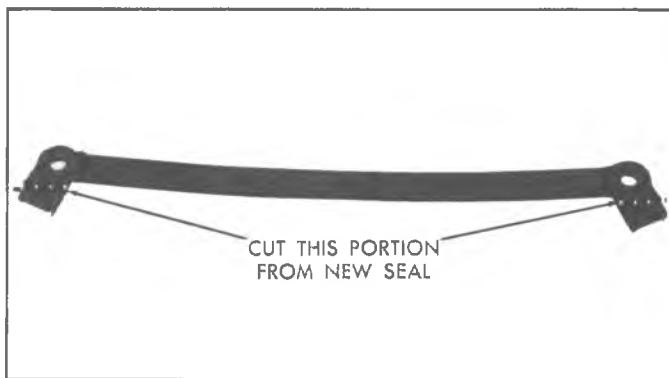

Fig. 17V—Oil Pan Front Seal Modification
2. Cut tabs from the new oil pan front seal (fig. 17V), use a sharp instrument to ensure a clean cut.